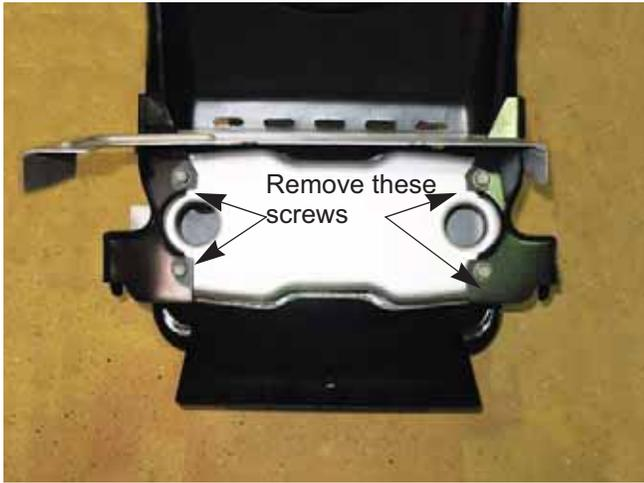

Figure 2.4
5. With the muffler on a work bench, remove the four screws that fasten the muffler to the muffler bracket. See Figure 2.4.